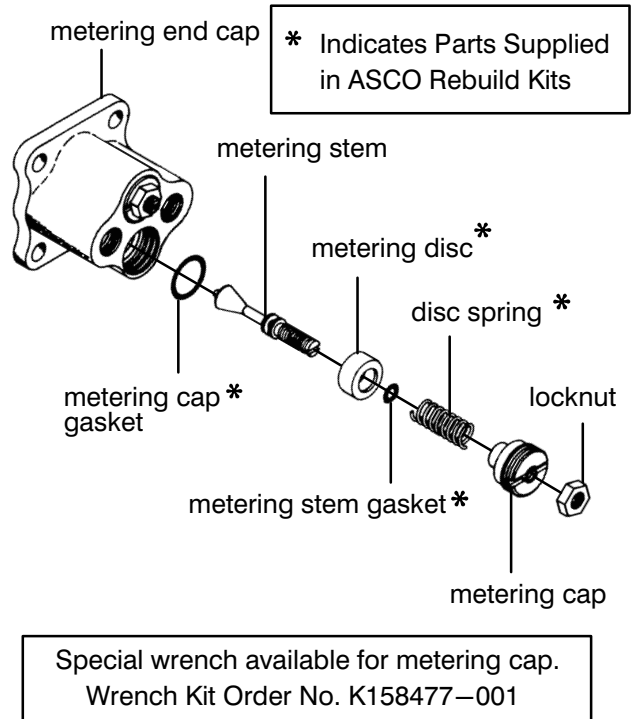

Figure 2. Metering device (optional)
#### Metering Device Disassembly (Refer to Figure 2)
**⚠ CAUTION: Metering disc must be assembled as indicated in Figure 2.**